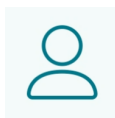

Figure 76. User Menu
1. Open the main menu by clicking the top left icon. See **Figure 76**.